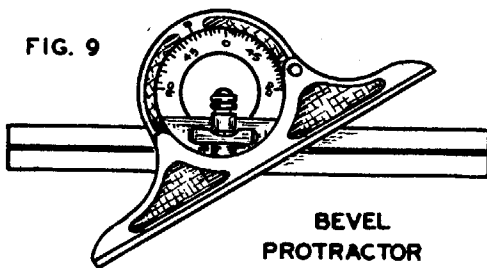

FIG. 9
2. The protractor head is provided with a swivel or turret to which the steel rule is clamped. (Fig.9). The revolving turret is graduated in degrees from 0 to 180. On some standard makes, it is graduated in degrees from 0 to 90 in either direction.